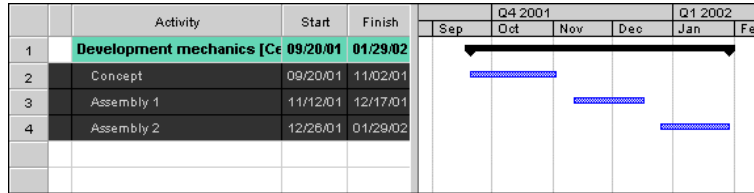

Figure 36: Activities to be combined into a summary task
1. First, enter the individual activities you want to group into a summary task and assign activity classes to them (Figure 36).